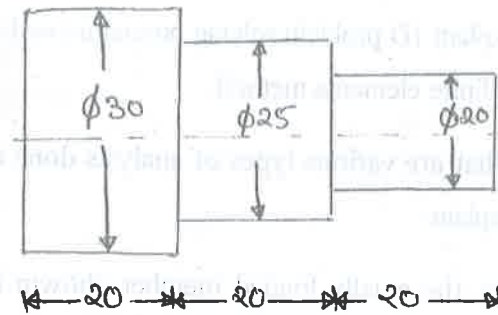

Fig. 1
- (d) Write an ISO program for step turing operation of the component shown in fig. 1. using canned cycles. The diameter of the work piece = 30 mm. 7